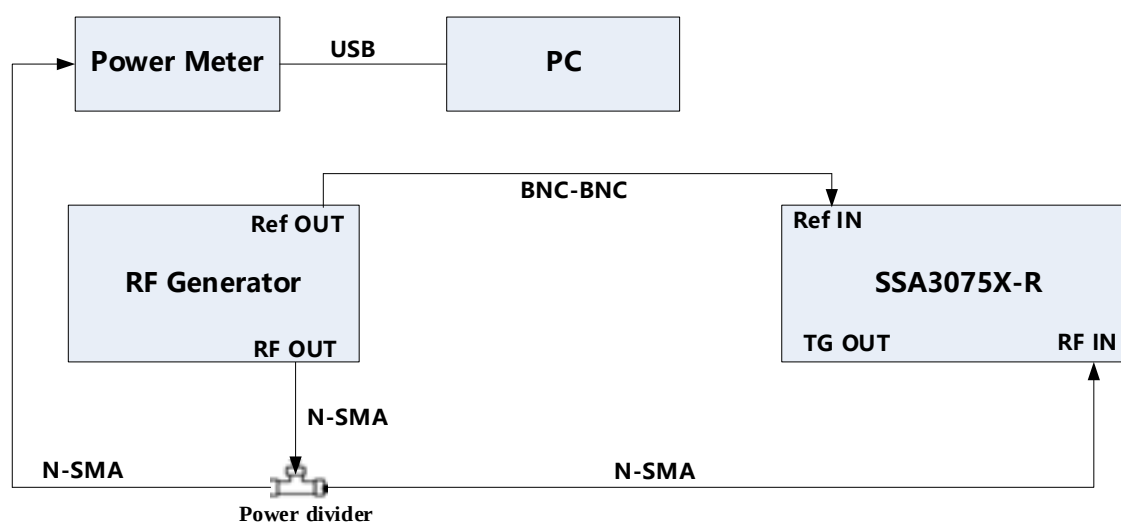

Figure 3-2 Frequency response connections
1. Connect the spectrum analyzer, signal generator, and power meter as figure 3-2 shows